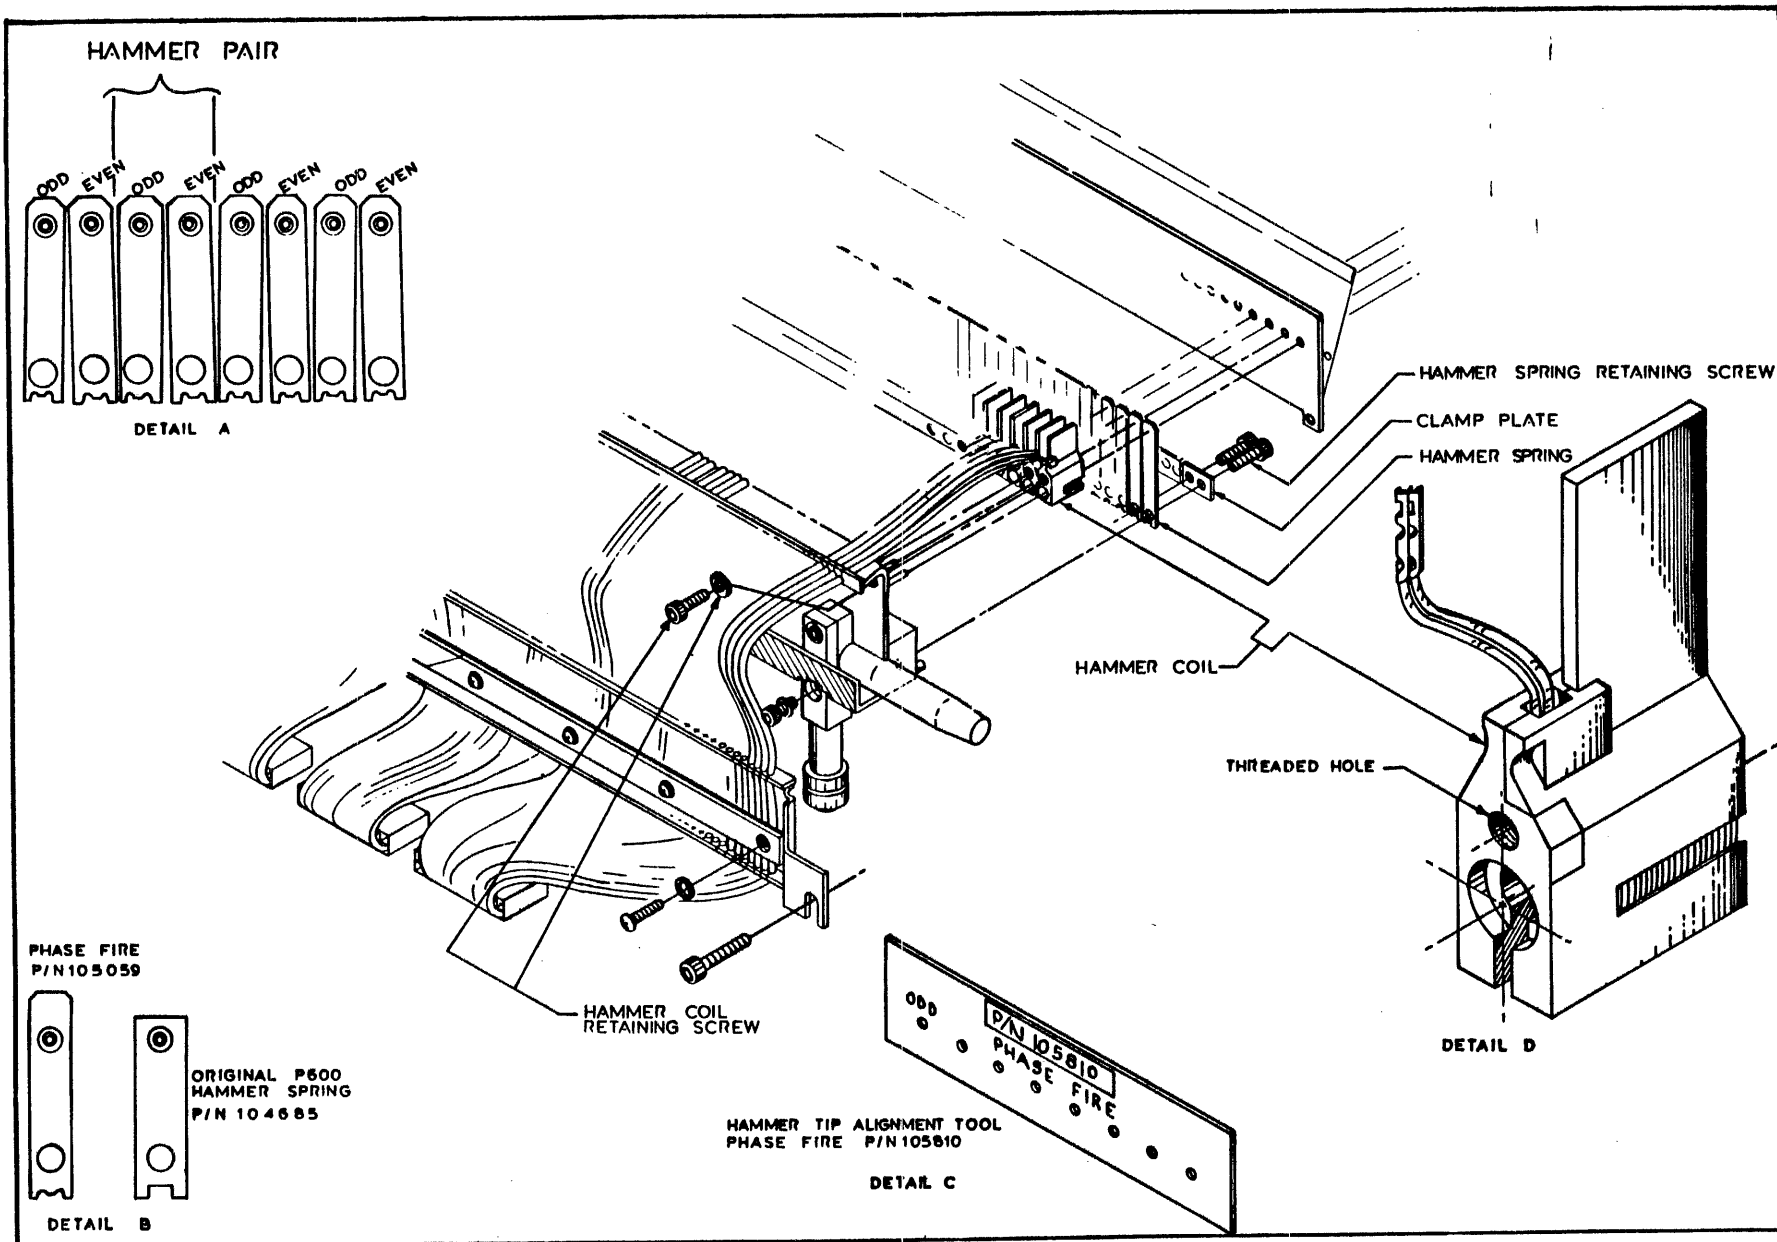

Figure 110 The Phase Fire Hammer Bank Assembly
- Each print hammer within a hammer pair (**Figure 110**) is offset a distance of 0.00417 inch toward the other so that the interval between those two hammer tips is one half dot column.
To replace the Phase Fire hammer coil, refer to **Figure 110** and proceed as follows:
Substitute short alignment tool 105810-001 or long alignment tool 105785-001 for those tools pictured in **Figure 89**. In subsection 5.16 step e, place the alignment tool on the hammer bank with its P/N on top, and its ODD hole over and odd numbered hammer spring tip (**Figure 110**, detail C).